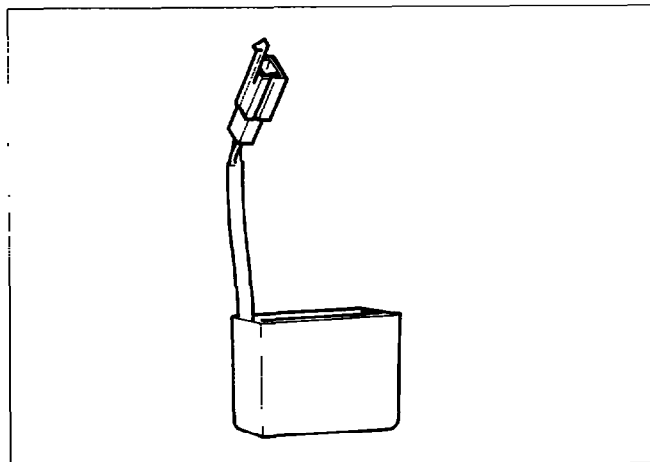

Fig. 9-8
- Use a “Dr. Robin” in capacitance meter mode to check the capacity of condensers. (See Fig. 9-8.)